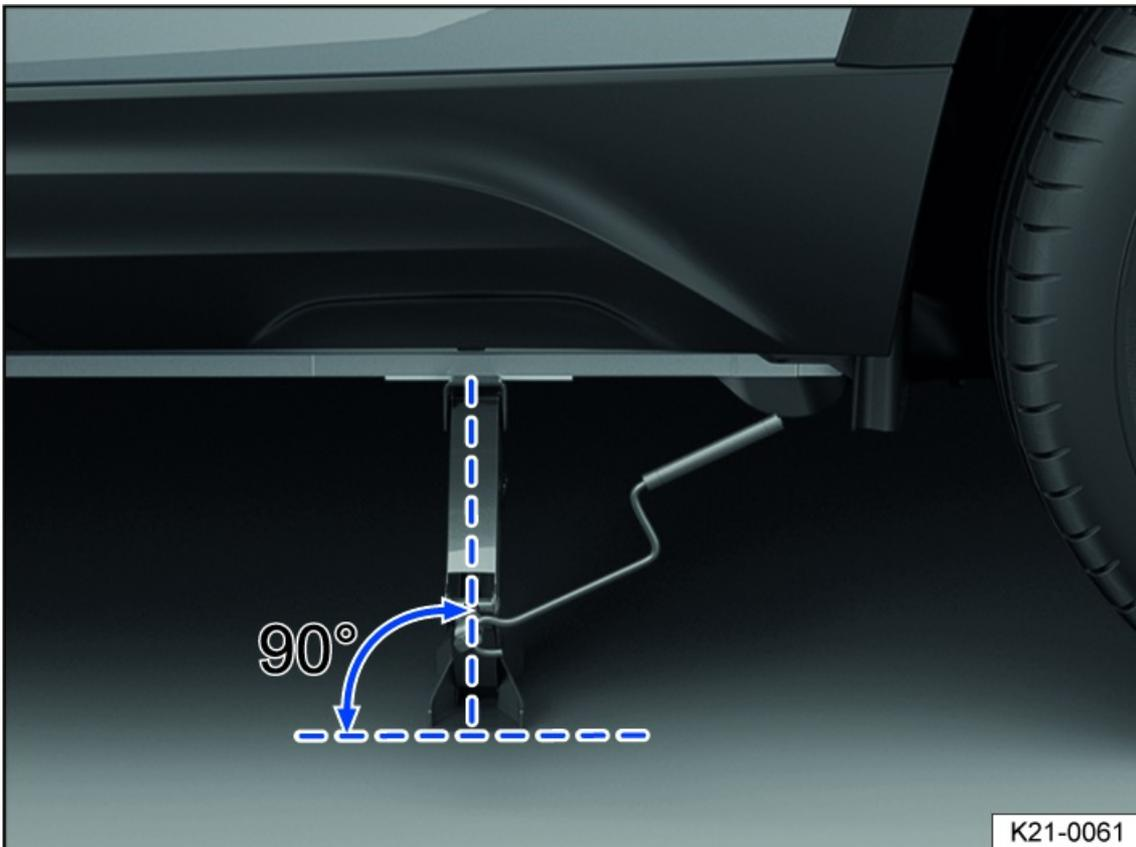
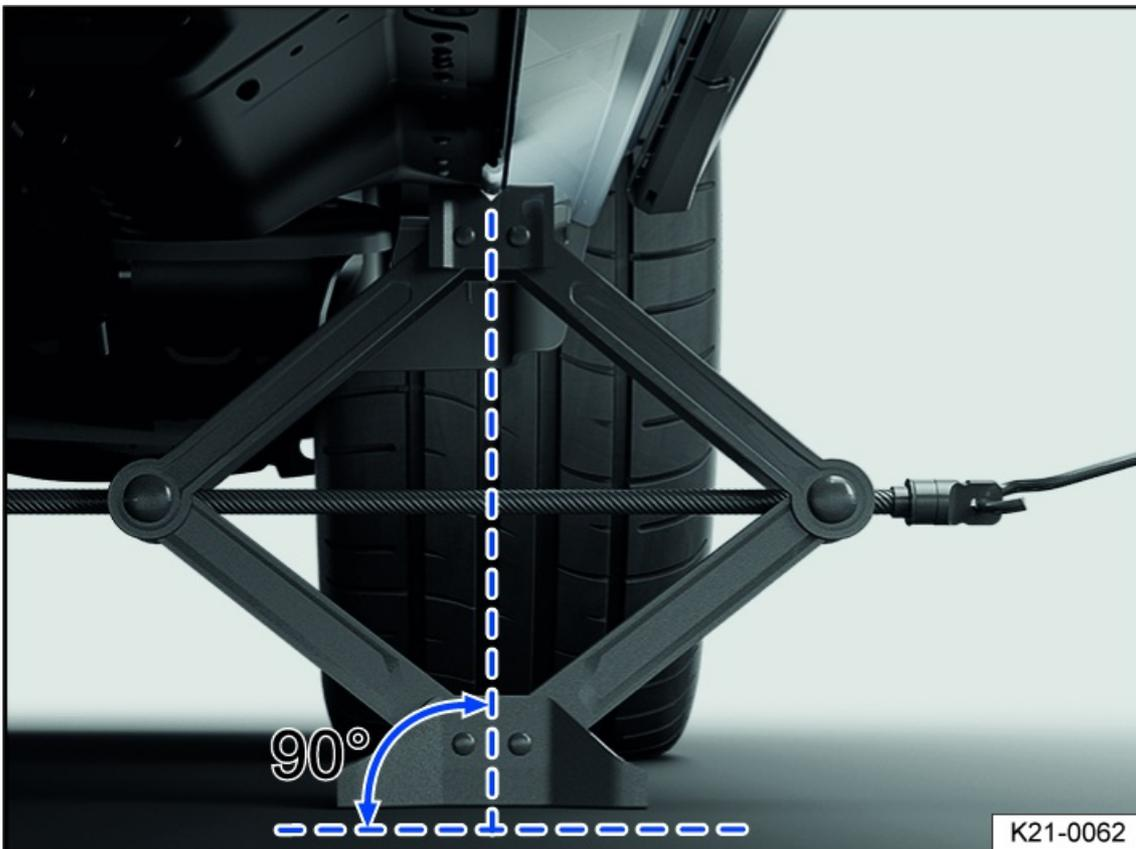

Fig. 186 Correct jack setup.
Fig. 187 On the left side of the vehicle at the rear: jack in position.
4. Make sure the entire base of the jack is seated securely on the ground and that the base of the jack is located exactly directly below the lift point *fig. 186* and *fig. 187*.
5. Straighten the jack and continue cranking the claw on the top of the jack upward until the claw is positioned on the jacking point under the vehicle *fig. 187*.
- Only place the vehicle jack at the lift points described. The bracket on the vehicle jack must firmly grip the sill *fig. 187*.